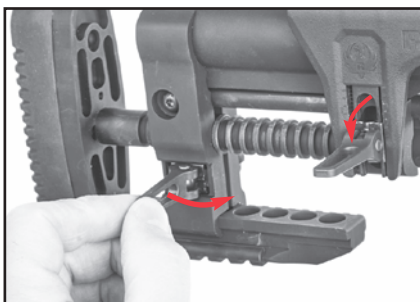

Figure 14
1. To adjust the length of pull, release the cam lever on the cheek piece and the cam lever on the stock frame (see Figure 14). The entire butt pad assembly can be moved in or out to lengthen or shorten the length of pull (see Figure 15). Note that the butt pad and the cheek piece will move together when both cam levers are released.